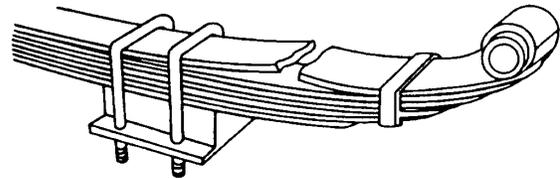

Figure 2-3: Safety defect: broken leaf in leaf spring.
- Missing or broken leaves in any leaf spring. If one fourth or more are missing, it will put the vehicle "out of service" but any defect could be dangerous (Figure 2-3).